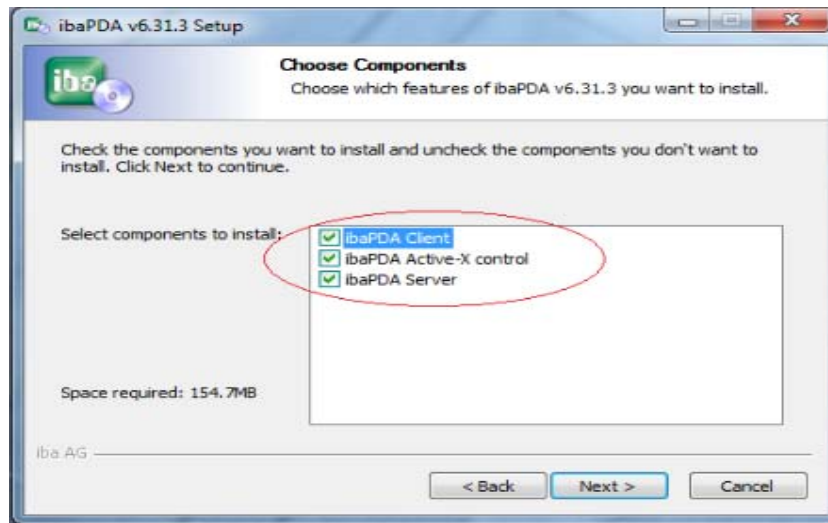

Figure 1. Selecting Type of Installation
- Insert the iBA PDA DVD into the drive. Go to the ibaPDA_Vx.xx.x folder located in the root directory. Run the setup file located in the folder. If the computer system meets the system prerequisites then you will get a dialog box as shown in Figure 1. Select **all the options** and then click on Next.